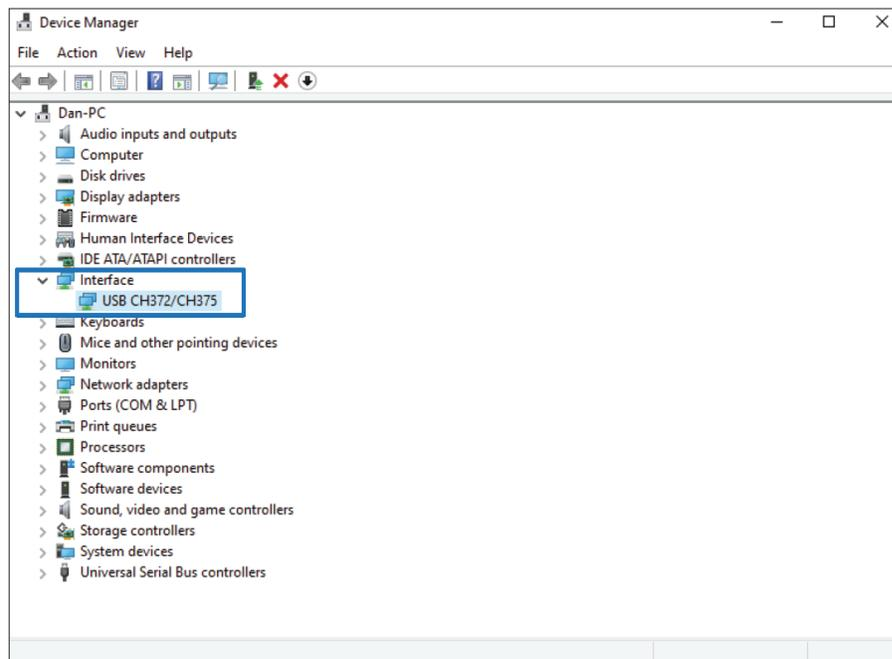

Figure 33
3. Look for “USB CH372/CH375”. (Figure 33)